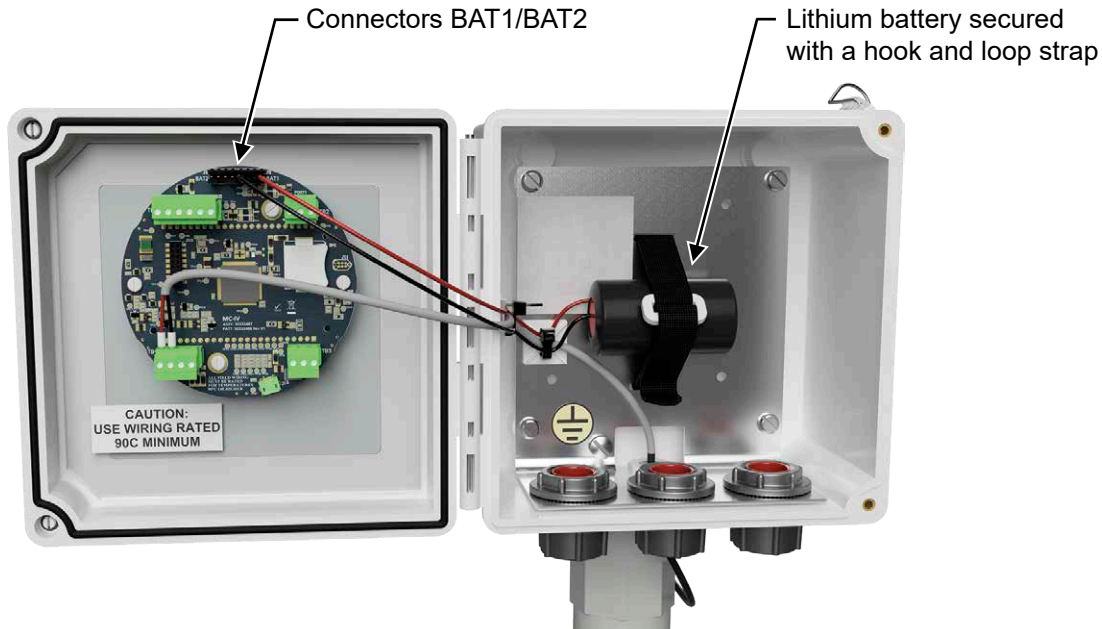

Figure 4.1—Lithium battery replacement
1. Release the latches, and open the door of the enclosure to access the lithium batter(ies) (Figure 4.1, page 80).